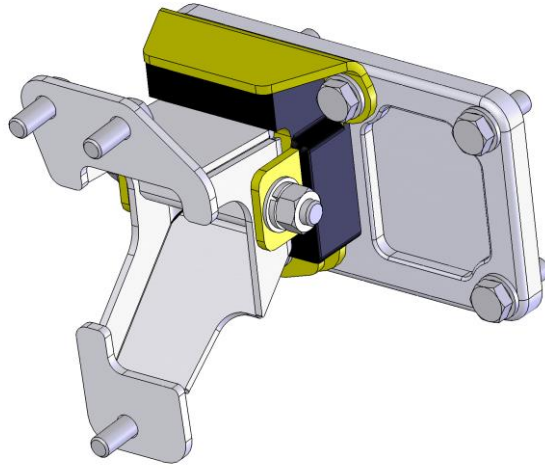

Figure 3 – Assembled View
5. Once everything is positioned correctly on the frame and engine. Attach the engine to the frame using two 7/16"-14x3.75" hex head bolts (#8). Use the provided flat washers (#10), lock washer (#11) and the hex nut (#9) to tighten everything in place. Torque these bolts to 30 ft./lbs. Figure 3 on the next page shows an assembled view.